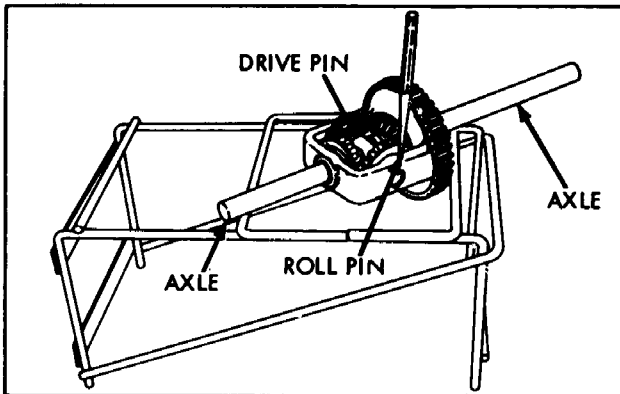

Figure 4-1
- a. Drive out roll pin that secures drive pin with suitable driver. (Figure 4-1)